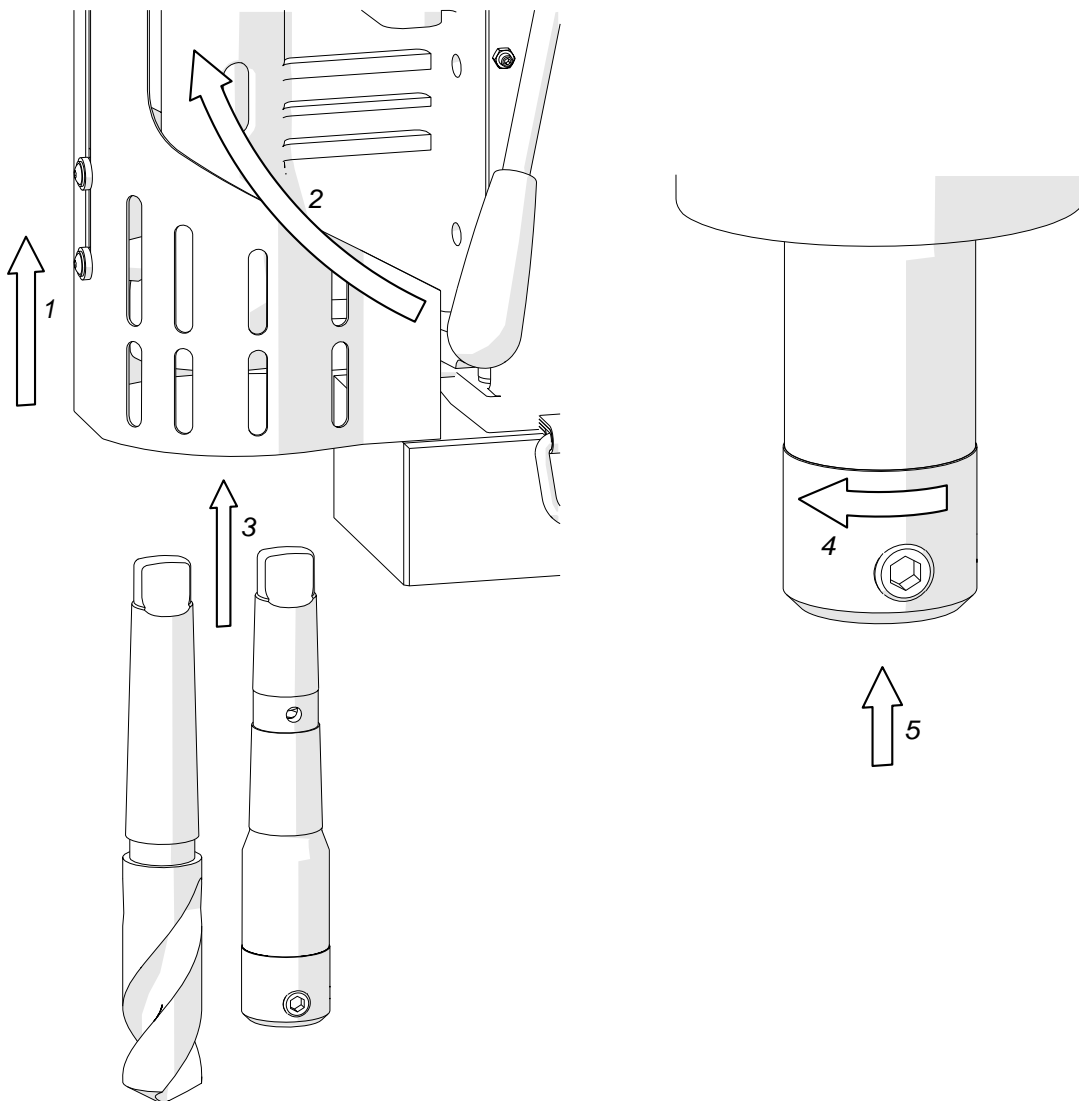

Fig. 1. Installing the arbor or the drill bit
Unplug the machine from the power source, raise the chip guard as high as possible (1, Fig. 1), and then rotate the spoke handles to the right (2) to raise the motor. Wear protective gloves and use a clean and dry cloth to wipe the spindle and arbor (drill bit). Next, insert the arbor (drill bit) into the spindle (3), and then rotate the arbor (drill bit) to the right (4) until it slips into place, and hammer it in (5).